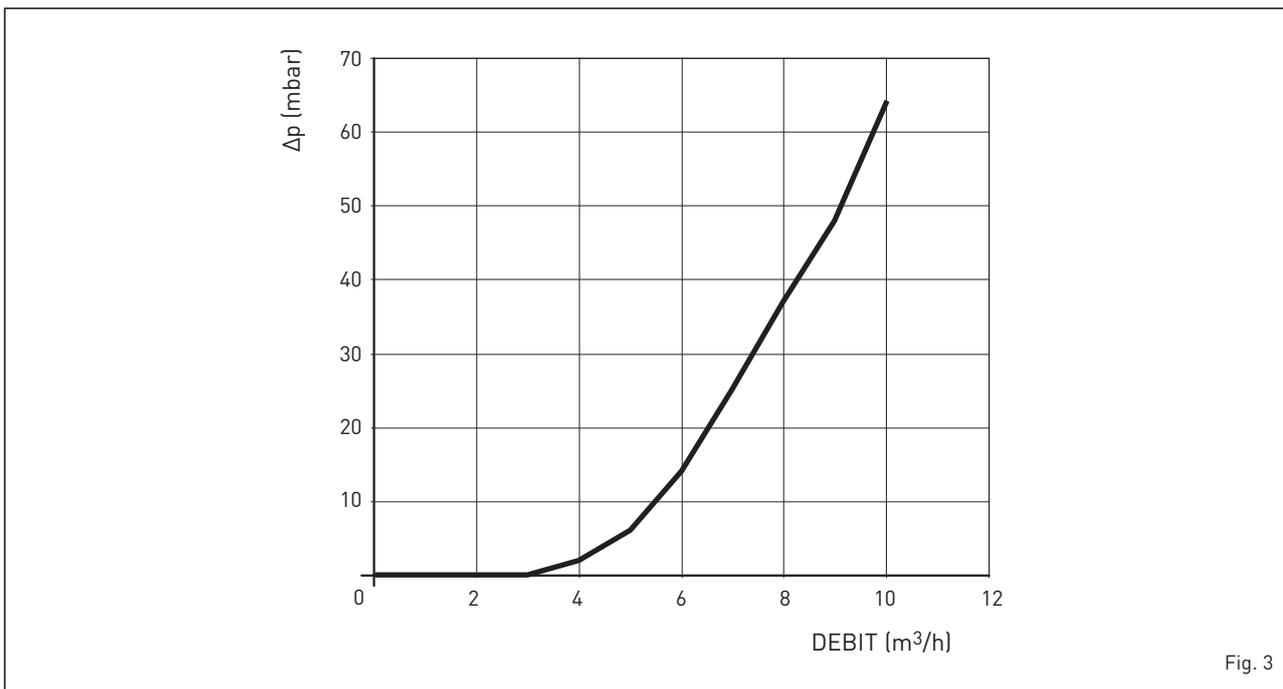

Fig. 3
1.5 PERTES DE CHARGE DU COMPENSATEUR HYDRAULIQUE FOURNI SUR DEMANDE DANS LES KIT CODE 8101550 (fig. 3)